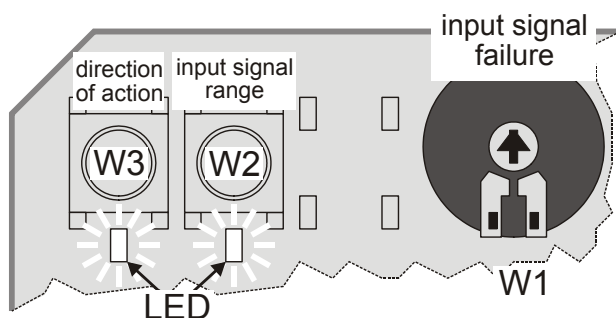

Fig. 1. Pushbuttons and potentiometer (default positions)
* Factory setting; can be reversed by pressing the pushbutton (W3) located on the PCB (see Fig. 1).
The direction of action can be reversed by pressing the left-hand pushbutton (W3) located on the printed circuit board (see Fig. 1). If the corresponding LED is lit, this indicates that the actuator stem will retract at a control signal of 0(2) Vdc (factory setting); if it is dark, the actuator stem will extend at a control signal of 0(2) Vdc.
The range of the analog input signal Y can be changed by pressing the right-hand pushbutton (W2) located on the printed circuit board (see Fig. 1). If the corresponding LED is lit, this indicates that the actuator is set for 0...10 V operation (factory setting); if it is dark, the actuator is set for 2...10 V operation.
Using the potentiometer (W1) located on the printed circuit board (see Fig. 1), the actuator can be adjusted such that in case the signal input fails (due e.g. to a broken wire) or exceeds 12.5 V, the actuator will run to any pre-configured position between 0% and 100%. The factory setting is with the actuator stem in the central position (50%).